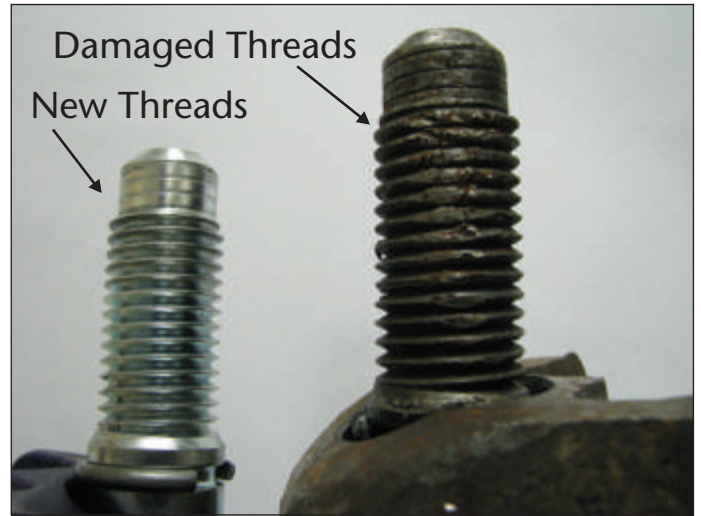

FIGURE 9 - Damaged and good bolts
2. Crossing of threads. This is prevented by hand rotating the bolts one (1) full turn before applying pneumatic tool.
3. Impact damage to the threads. This is caused by careless behavior or improper storage (FIGURE 9).